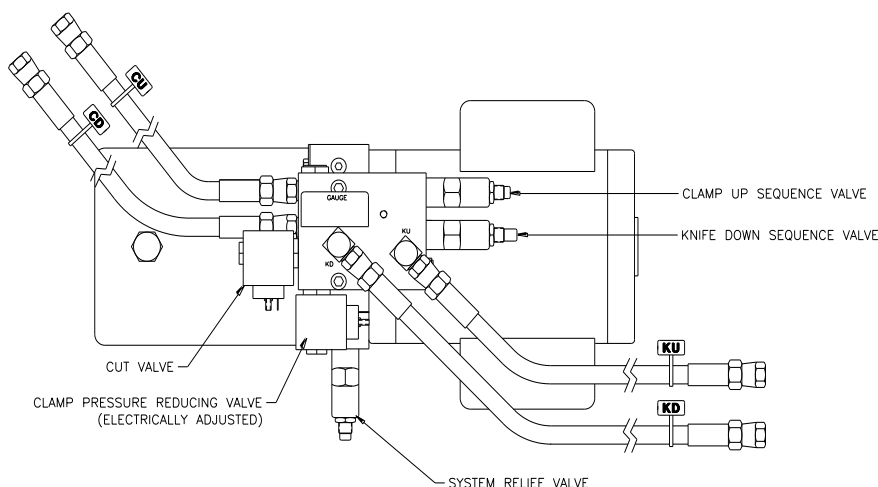

Figure 18
2. MAIN SYSTEM RELIEF PRESSURE: Use the Knife Down command in Maintenance Mode to send the knife and clamp down. Read the pressure on the gauge when the knife is bottomed on the table. Adjust the main system relief valve (Figure 18) to obtain a reading of 1,400 psi. It may be necessary to send the knife down several times.
3. KNIFE DOWN SEQUENCE PRESSURE: Begin a cut cycle and read the knife sequence pressure as the knife is traveling down. The pressure should read 900 psi. If necessary, adjust the knife sequence valve (Figure 18) to obtain the proper reading.
4. CLAMP UP SEQUENCE PRESSURE: Activate a cut cycle and visually inspect the motion of the knife and clamp. The clamp should not lift off the table until the knife is all the way up. If it does, increase the sequence pressure by adjusting the clamp up sequence valve (Figure 18).
- a) MANUALLY-ADJUSTED CLAMP PRESSURE CONTROL – (S/N 133838 and Below): Start a cut cycle and read the pressure on the gauge after the clamp has contacted the table. Adjust the clamp pressure reducer (Figure 18) to the desired setting between 400 and 800 psi.
Now perform a cut cycle. After the clamp has contacted the table and while the knife bar is coming down, read the pressure on the clamp pressure gauge (Figure 18). It should read 800 psi. If it does not, correct by using the up and down arrow keys. When finished, press soft-key “D” to exit and go to the minimum pressure set up screen as shown next:
Perform a cut cycle. After the clamp has contacted the table and while the knife is coming down, read the pressure on the clamp pressure gauge (Figure 18). It should read 400 psi. If it does not, correct by using the up and down arrow keys. When finished, press soft-key "C" to return to Send Mode, or soft-key "D" to return to Diagnostics.